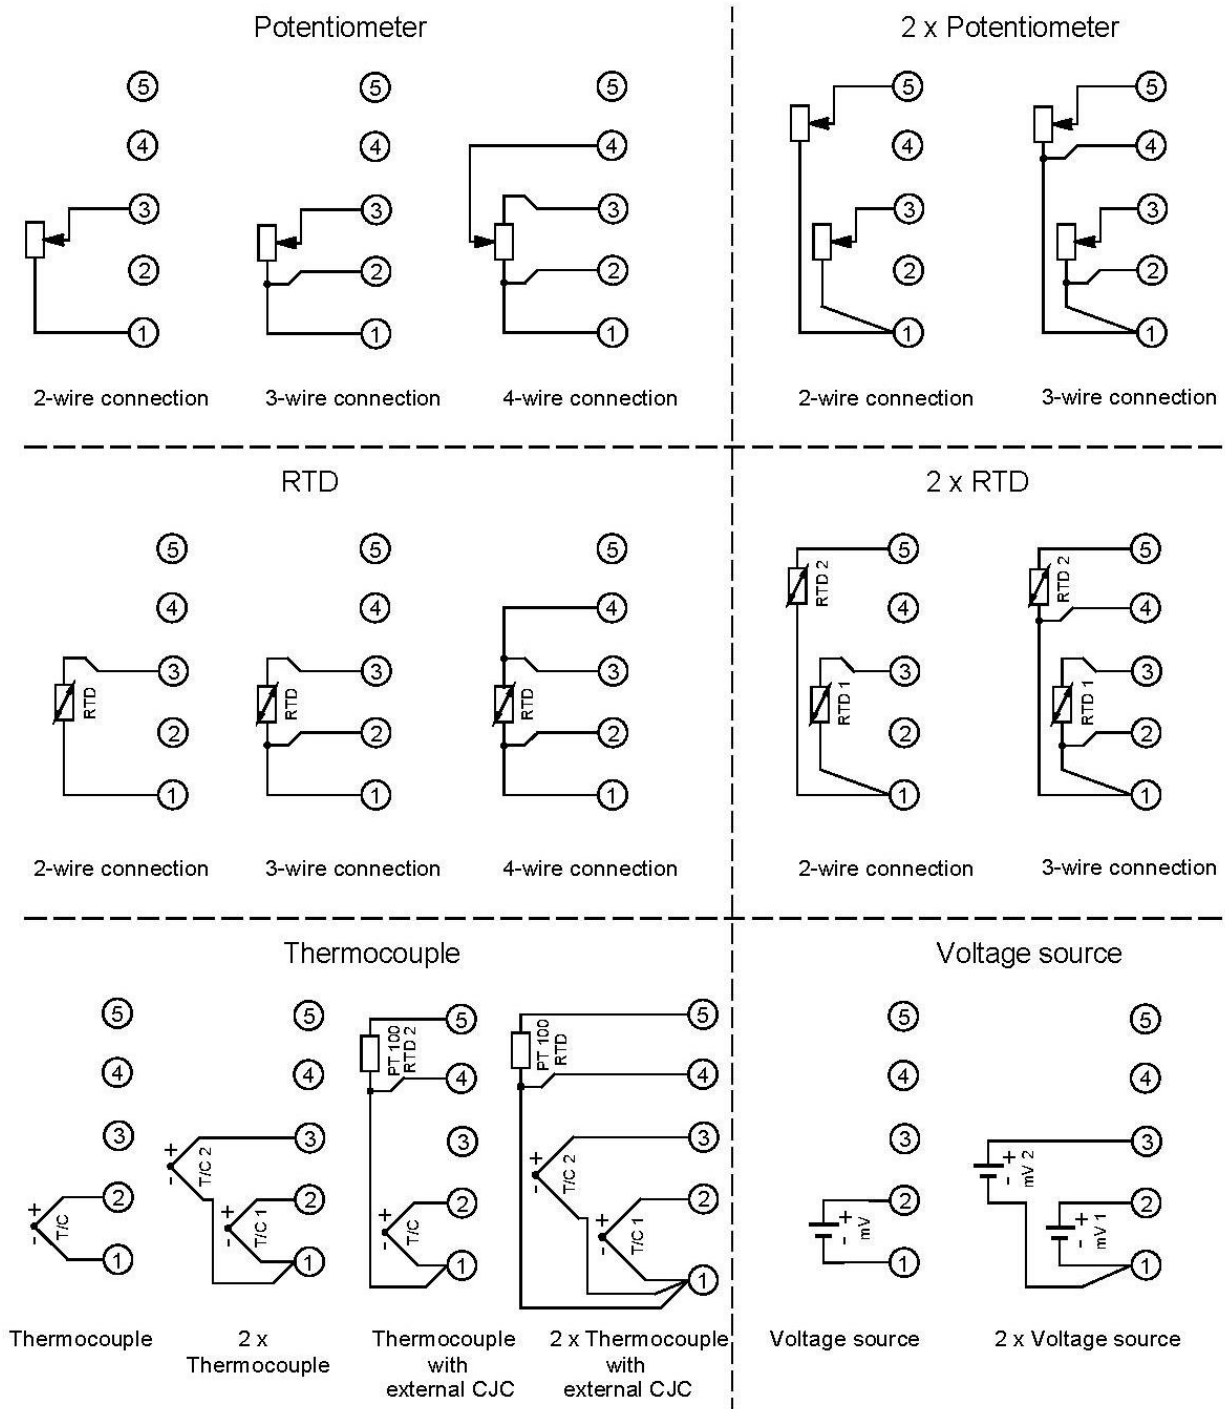

Figure 10. Methods of connecting sensors, potentiometers and voltage sources.
- type of the mathematical function processing the signal from two sensors (2 x RTD 2-wire connection, 2 x RTD 3-wire connection, 2 x thermocouple, 2 x thermocouple with external CJC (see →Figure 10. Methods of connecting sensors, potentiometers and voltage sources.)):